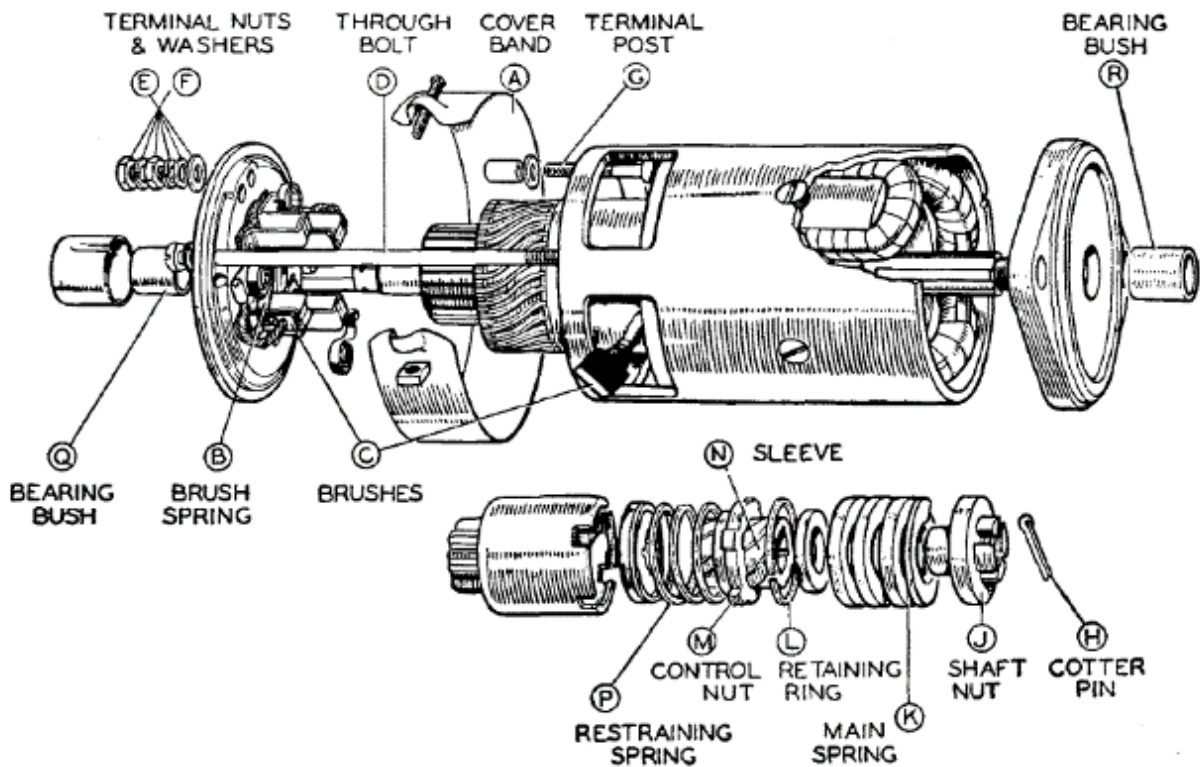

Fig. N.5. An exploded view of the starter and drive.
Remove the starter cover band (A) (Fig. N.5) and examine the brushes (C) (Fig. N.5) and the commutator. Hold back each of the brush springs (B) (Fig. N.5) and move the brush by pulling gently on its flexible connector. If the movement is sluggish remove the brush from its holder and ease the sides by lightly polishing with a smooth file. Always replace brushes in their original positions. If the brushes are worn so that they no longer bear on the commutator, or if the brush flexible lead has become exposed on the running face, they must be renewed.
Take off the cover band "A" (Fig. N.5) at the commutator end, hold back the brush springs "B" (Fig. N.5) and take out the brushes "C" (Fig. N.5) from their holders.
- (b) If the brushes are worn so that they no longer bear on the commutator, or if the flexible connector has become exposed on the running face, they must be renewed. Two of the brushes are connected to terminals eyelets attached to the brush boxes on the commutator end bracket. The other two brushes (Fig. N.5) are connected to tappings on the field coils. The flexible connectors must be removed by unsoldering and the connectors of the new brushes secured in
To dismantle the drive, extract the split pin and remove the shaft nut "J" (Fig. N.5); withdraw the main spring and collar.